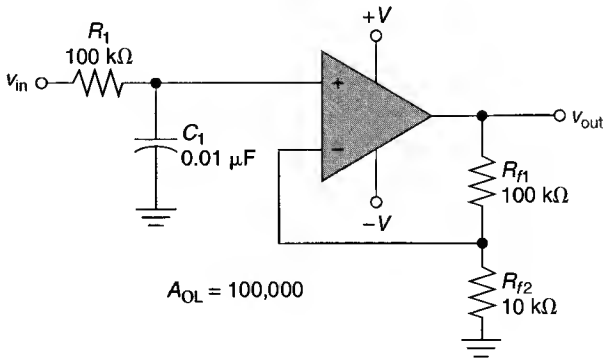

FIGURE 17.44
7. Calculate the bandwidth and closed-loop voltage gain for the filter in Figure 17.44.
8. A filter like the one in Figure 17.44 has values of $R_1 = 82\text{ kΩ}$, $C_1 = 0.015\text{ μF}$, $R_{f1} = 150\text{ kΩ}$, and $R_{f2} = 20\text{ kΩ}$. Calculate the bandwidth and closed-loop voltage gain of the circuit.